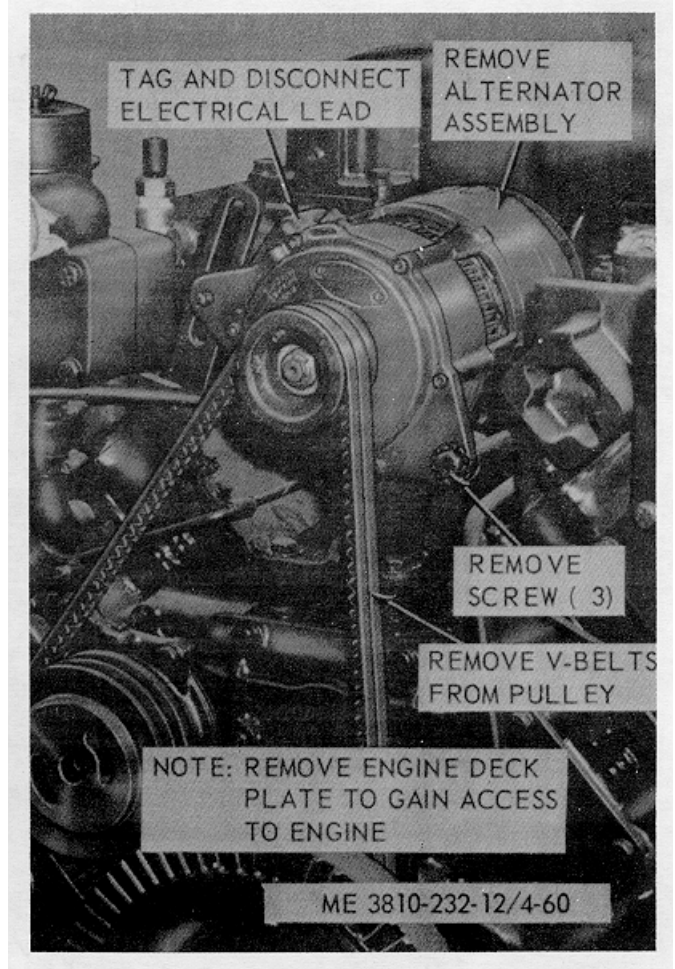

Figure 4-60. Carrier Engine alternator removal and installation. (model 2385).
(1) Disconnect cable from generator to generator regulator.
(2) Disconnect cable from generator regulator to battery.
(3) Momentarily connect a wire from battery to generator. This allows a momentary surge of current to flow through generator field coils to correctly polarize the generator.
(4) Remove jumper connection and reconnect cables from generator to generator regulator and from generator regulator to battery.
a. *Removal.* Remove alternator as illustrated in figure 4-60.
- (1) Wipe exterior of alternator with a damp cloth.
- (2) Inspect all wiring and terminals for signs of wear, looseness or corrosion. Check for worn or frayed insulation which could result in shorts or grounds. Clean and tighten all terminals and connections.
- (3) Replace a defective alternator.
- c.. Installation. Install carrier alternator as illustrated in figure 4-60. Refer to paragraph 4-49 and adjust drive belts.